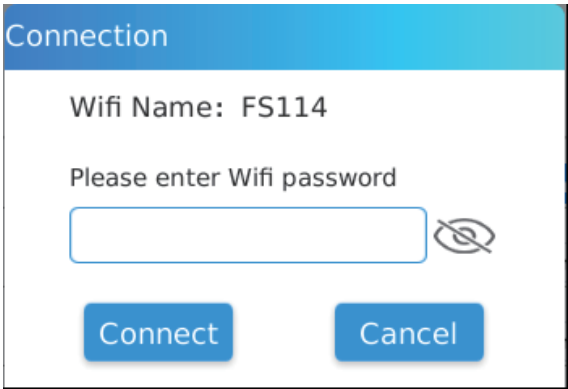

Fig 6.21 Connection
- 2) Select a network to be connected, click the “Not connected” button and enter the password in the pup-up dialog box, refer to Fig 6.21.